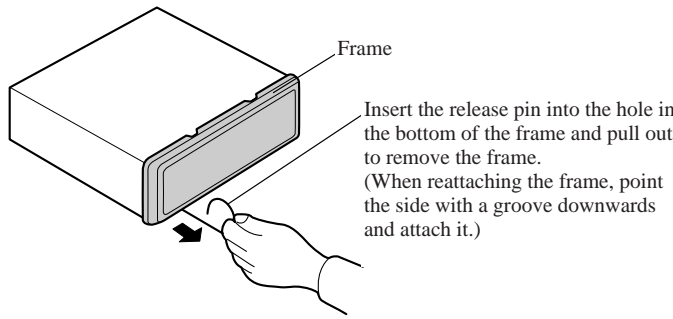

Fig. 10
1. Remove the frame. (Fig. 10)